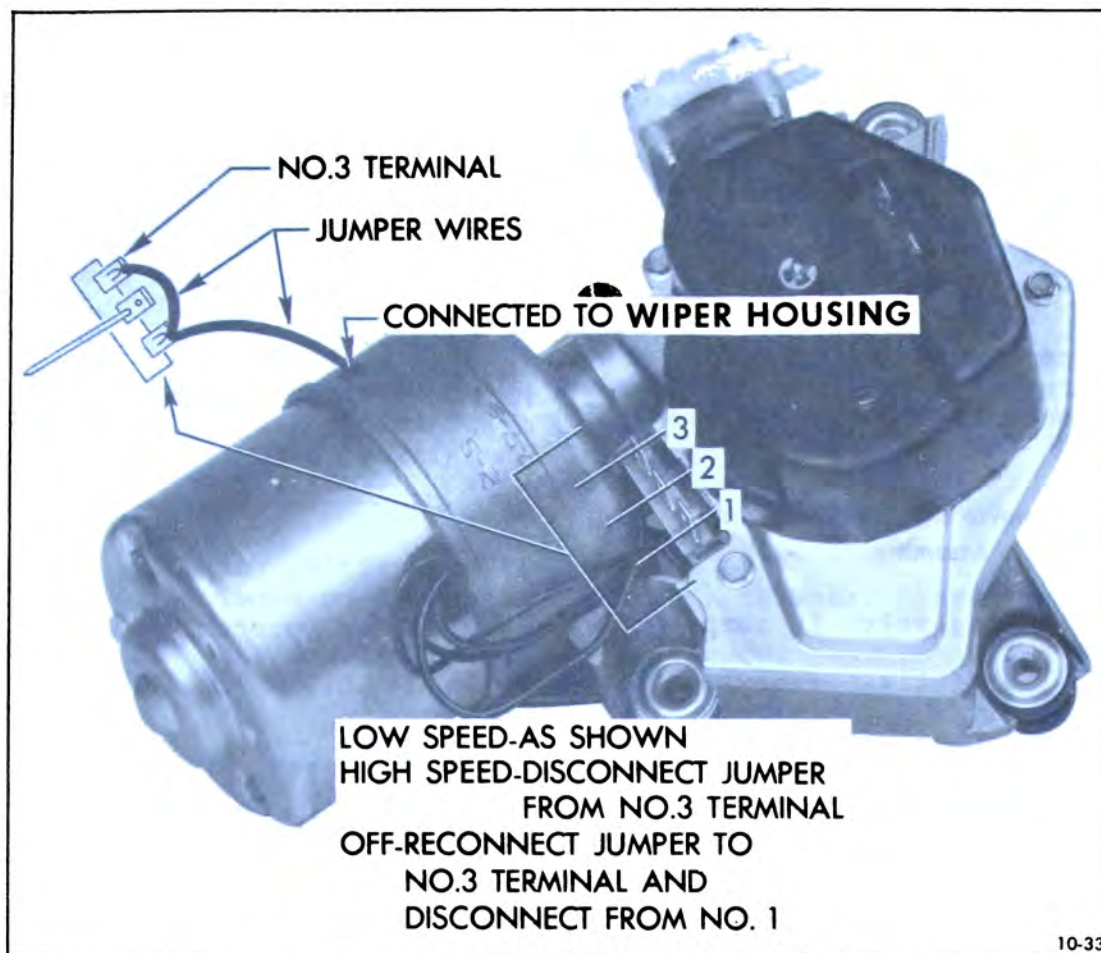

Figure 10-55 Connections to Operate Wiper Independent of Instrument Panel Switch
2. Checking Wiper Operation. Operate wiper independently of the car wiring or switch, as shown in Figure 10-55. Check low and high speeds and if wiper shuts off correctly.